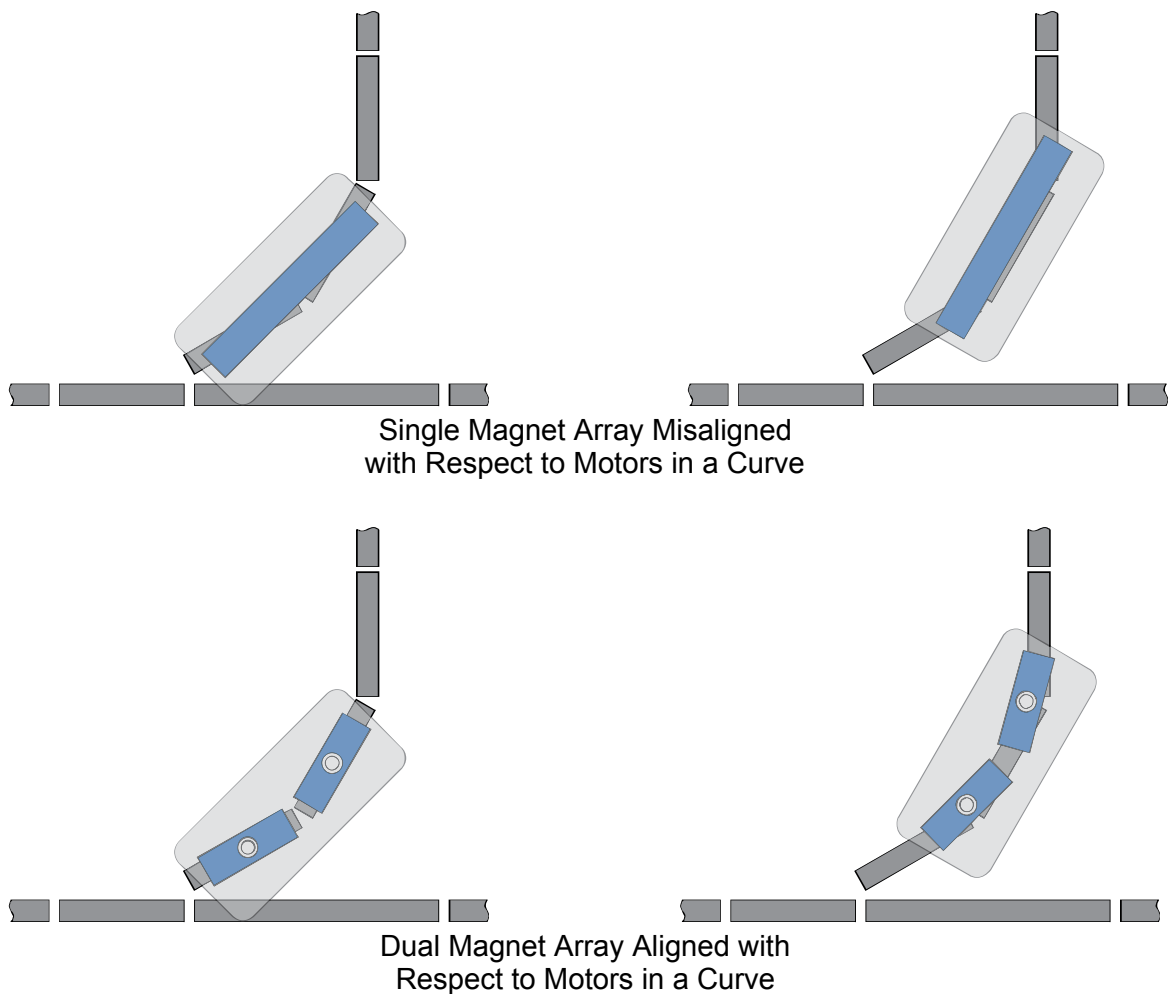

*Figure 3-14: Typical Vehicle on Guideway*
- The vehicle design must provide guides to make sure that the magnet array position is maintained over the center of the motor as shown in Figure 3-14.